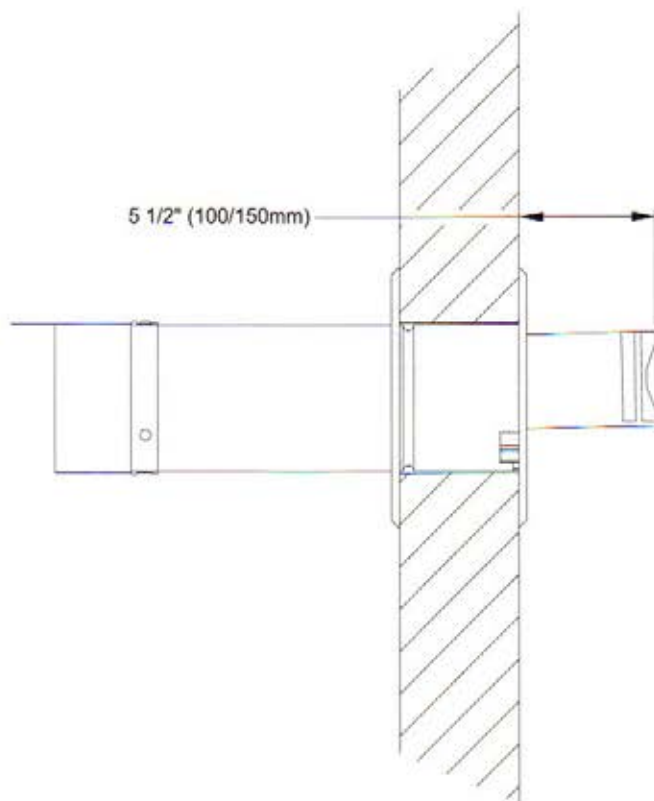

Figure 23: Horizontal Concentric Venting
Refer to Figure 23.
- iii. For horizontal (sidewall) installation, the Horizontal (Wall) Terminal will extend past outer wall surface by 5 1/2" (100/150 mm). See Figure 23 "Horizontal Concentric Venting".